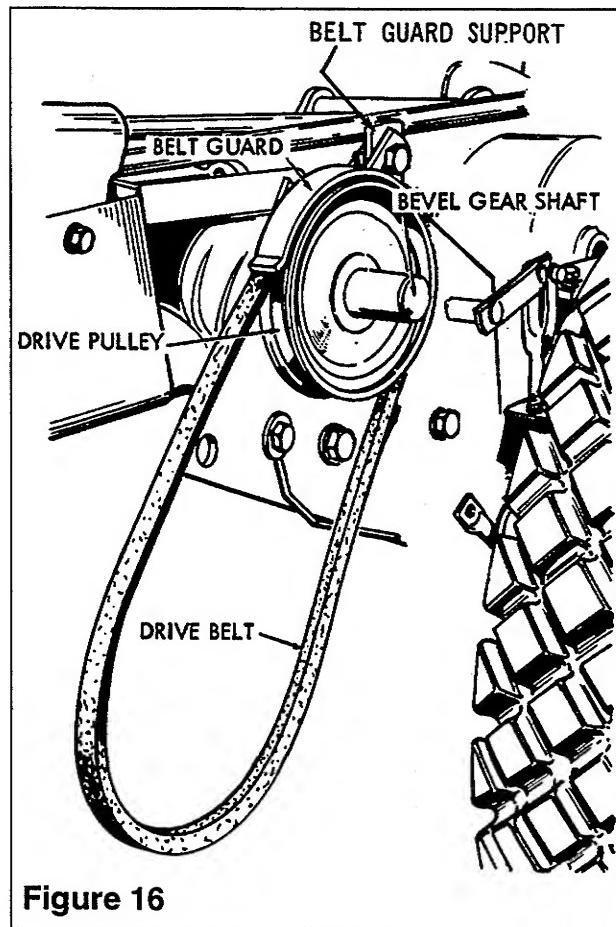
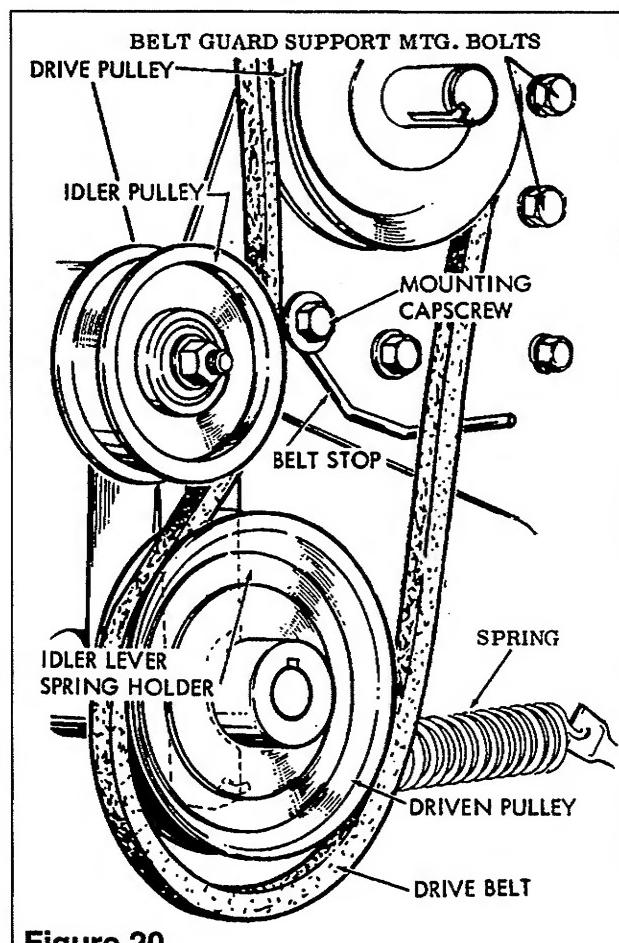

Figure 16
Figure 20
1. Mount Drive pulley to shaft of bevel gear assembly (See Figure 16) and secure in place with key and set screw. Hub of Drive pulley is to face inward. Place drive belt on Drive pulley and mount belt guard support to inside surface of side plate nearest drive pulley. See Figure 20 for mounting bolt location. Attach the belt guard to the guard support as shown in Figure 16. Allow approximately 3/16" clearance between belt and guard.
5. Remove Front Hex. Cap Screw from Pull Bar. Replace with stud 157273 provided. Short end inserted. Slip on Handle Assembly and tighten with Hex Head Lock Nut to permit free movement of handle. Mount "V" Belt in place on driven pulley as shown in Figure 20 and attach spring to hole provided in the bottom of the Bracket Assembly. Hook other end of the spring to the Handle Assembly. Mount Belt Stop as shown with 3/8" Bolt, Flat Washer, Lock washer, and Hex. Nut, When Implement is attached to tractor with Idler Pulley engaged, 1/8" clearance between Belt Stop and back of "V" Belt is required. NOTE: "V" Belt runs under Idler Pulley. See Figure 20.